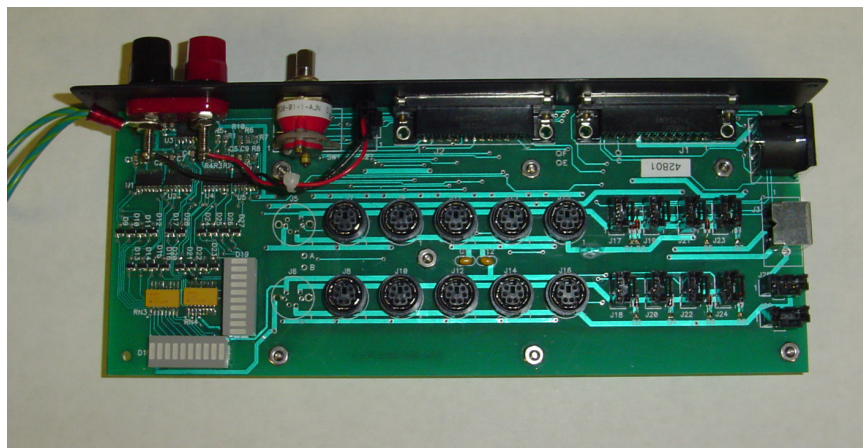

Figure 3-5: Control Circuit Board
- e) Move the beam dump monitor away from the cell until you find the set of holes that gives you a solid red light on the LEDs that are perpendicular to the main laser beam (D36) on the circuit board next to the optical platform (Figure 3-5).